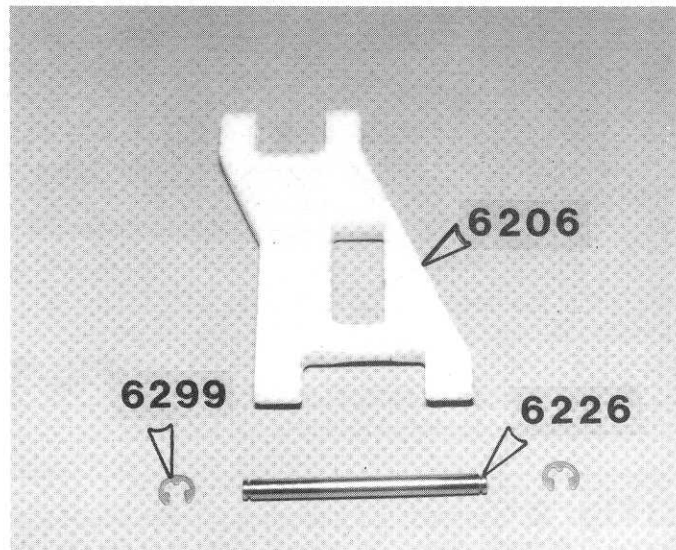

Fig. 7
□ **Figs. 7 & 7a** In the same bag, take out the #6206 L.H. front A-arm, the #6226 inner pin and the package of "E" clips, as shown.